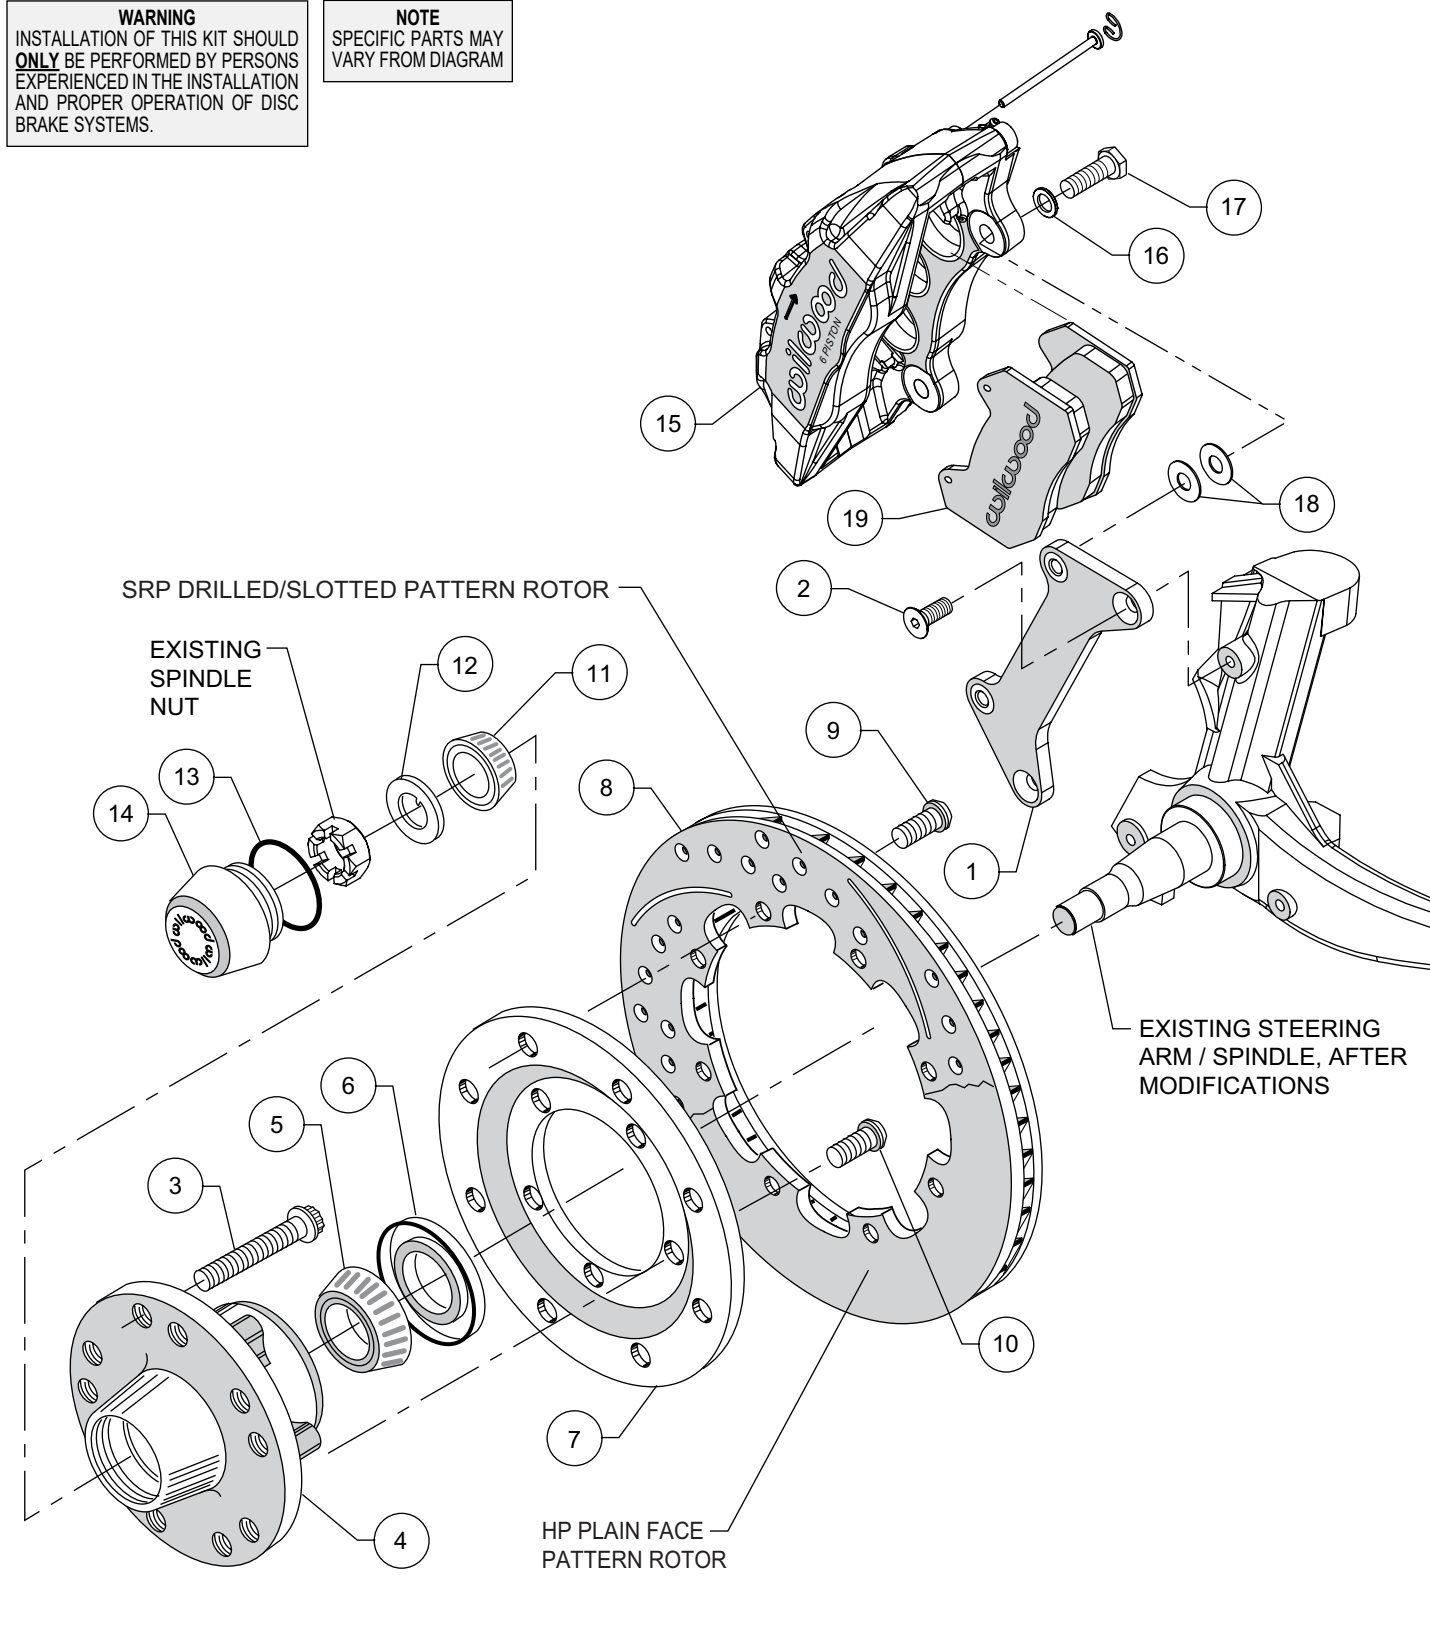
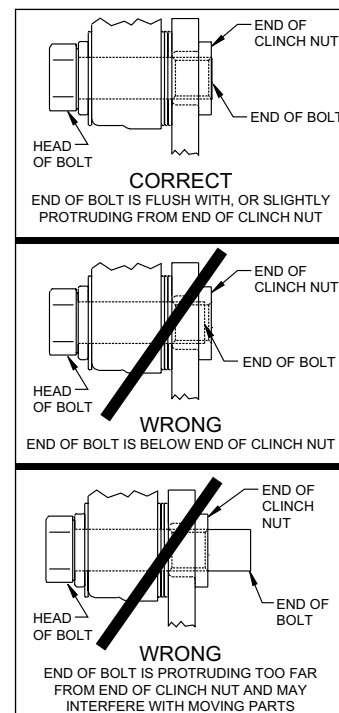

Figure 2. Typical Installation Configuration
Figure 4. Clinch Nut Engagement Diagram
**NOTE:** Numbers in parenthesis refer to the parts list and Figure 2 on the preceding pages.
**CAUTION:** All mounting bolts must fully engage clinch nuts. Be sure to check that all bolts are either flush or protruding through flanged side of clinch nut after shimming, Figure 4.
•Orient the caliper mounting bracket (1) with the corresponding holes, to the face of the spindle as shown in Photo 1 and Figure 2. Attach using bolts (2), Photo 1 and Figure 2. Temporarily tighten the mounting bolts. Ensure that the flanged heads of the clinch nuts in the bracket are facing outboard, Photo 1. **NOTE:** The bracket must fit squarely against the mounting points on the spindle. Inspect for interference from casting irregularities, machining ridges, burrs, etc. Remove bolts one at a time, apply red Loctite® 271 to threads and torque to 40 ft-lbs.
•Install wheel studs (3) into the hub (4), Photo 2. Torque to 77 ft-lb. **NOTE:** There are two five lug patterns in the hub (5 x 4.50 and 5 x 4.75). Ensure the correct hub stud pattern is being used to fit the wheel application.
•Pack the large inner bearing cone (5) with high temperature disc brake bearing grease (available from your local auto parts store) and install into the backside of the hub (4), Photo 3.
•Install the grease seal (6) by pressing into the backside of the hub (4), flush with the end of the hub, Photo 3.
- Orient the rotor (8) and the rotor adapter (7) as shown in Figure 2 and Photo 4. Attach the rotor to the adapter using bolts (9). Using an alternating sequence, apply red *Loctite*® 271 to the threads, and torque to 25 ft-lb.
- Mount the adapter/rotor assembly (7/8) to the hub (4) using bolts (10), as shown in Figure 2 and Photo 5. Using an alternating sequence, apply red *Loctite*® 271 to the threads, and torque to 45 ft-lb.
- Pack the small outer bearing cone (11) with high temperature disc brake bearing grease and install into hub (4). Slide the hub/rotor assembly onto the spindle. Secure using spindle washer (12) and OEM spindle nut, Photo 6. Adjust bearings per OEM specifications. Install saved OEM nut lock (if any) and a new cotter pin (not included).
- Screw dust cap (14) into hub (4), Photo 7. Friction created by the o-ring (13) on the dust cap keeps it from unscrewing. **NOTE:** The O.D. of the existing OEM spindle washer may be larger than the I.D. of the dust cap not allowing it to seat against the hub face. Therefore, use the spindle washer (12) supplied with the kit instead of the OEM washer.
- NOTE:** Please reference the caution statement at the beginning of the assembly instructions. This kit contains distinct right and left hand calipers that must be mounted in a specific direction, as described below. Mount the caliper (15) onto the caliper mounting bracket (1) using bolts (17) and washers (16), as shown in Figure 2. Initially place two .035" thick shims (18) on each bolt between the caliper and the bracket, Photo 8. Ensure that the caliper is mounted so the largest pistons are at the rotor exit end of the caliper, in relation to the direction of rotor rotation. Temporarily tighten the mounting bolts and view the rotor (8) through the top opening of the caliper. The rotor should be centered in the caliper, Photo 9. If not, adjust by adding or subtracting shims between the bracket and the caliper. Always use the same amount of shims on each of the two mounting bolts. **NOTE:** The end of each bolt must be flush with or slightly protruding from the head of the clinch nut, as shown in Figure 4. If necessary place spare shims between washer (16) and caliper mounting ear to achieve the proper clinch nut engagement. Once the caliper alignment and clinch nut engagement are correct, remove the mounting bolts and caliper.